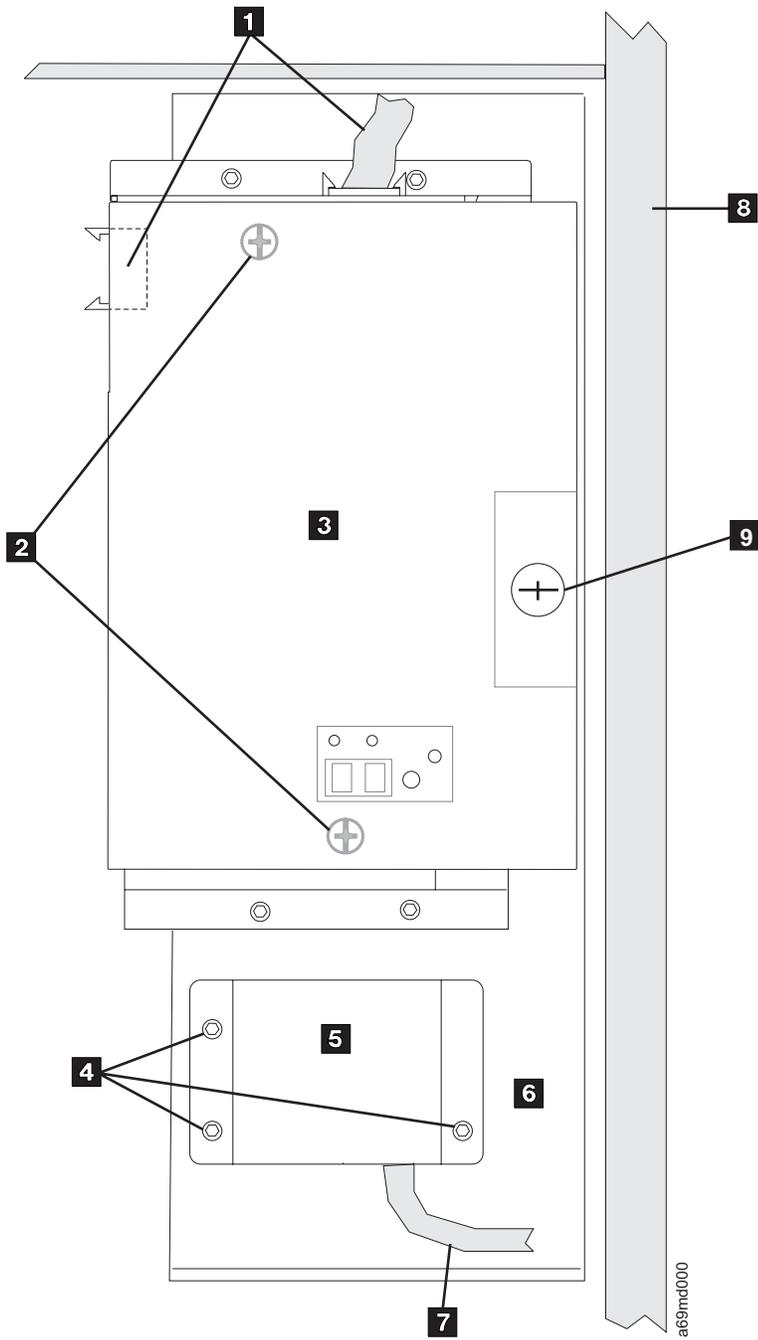

Figure 100. Operator Panel. (Viewed from rear of front door)
5. Refer to Figure 100 on page 570 and remove the connector **1** at the top of the Operator Panel. This cable goes to the FIC card and must be removed before you unplug other cables as part of the removal/replace procedure.
When working with the XIO card, always remove the operator panel assembly cable first or attach it last to prevent damaging the operator panel (see item 1 in Figure 100 on page 570).
2. From the back side of the base frame front door, disconnect the cable from the operator panel assembly (see item 1 in Figure 100 on page 570).
When reattaching cables to the XIO card, ensure you reconnect the cable from the operator panel assembly to the XIO card last (see item 1 in Figure 100 on page 570).